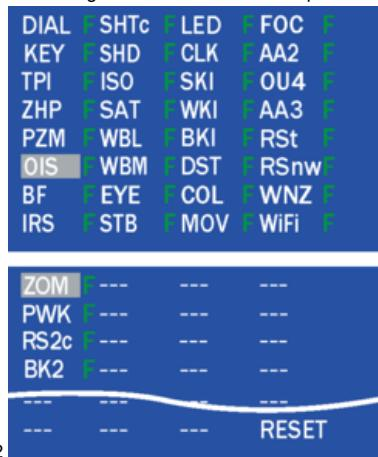

Fig. 3-2
1. After pressing the **DISPLAY** button, the LCD monitor displays the Flag status screen (Refer to Fig.3-2.)